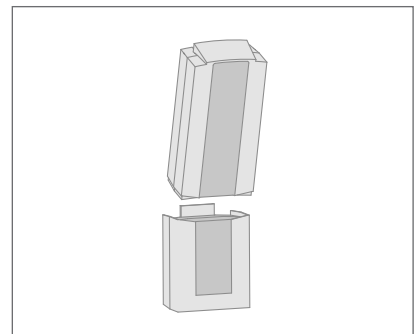

Figure 13. Attaching/removing battery and charger
2. Place the lower end of the battery onto the wall mounted battery charger with the upper (lever) side of the battery slightly out from the bracket (see figure 13).